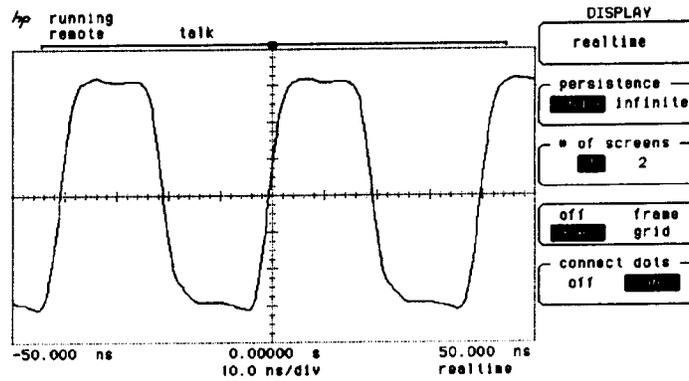

Figure 9-7. Maximum Vertical Signal Setup
- **Select the CHANNEL MENU and set volts per division for a full-scale, but not clipped, display. Use the vernier of the pulse generator, if necessary, to set the signal to full scale as in figure 9-7.**